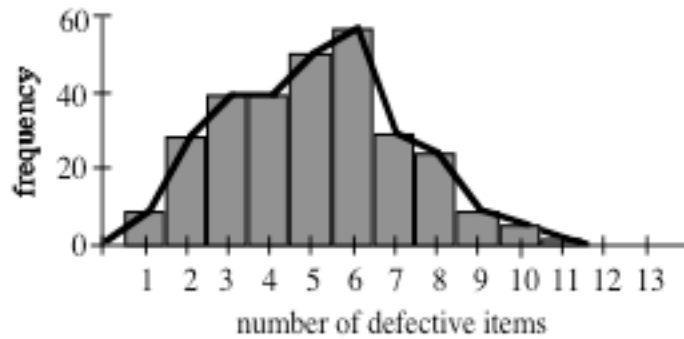

Figure 1: A frequency polygon
4. Connect the midpoints of the tops of the bars to create a **frequency polygon**, as shown in Figure 1.